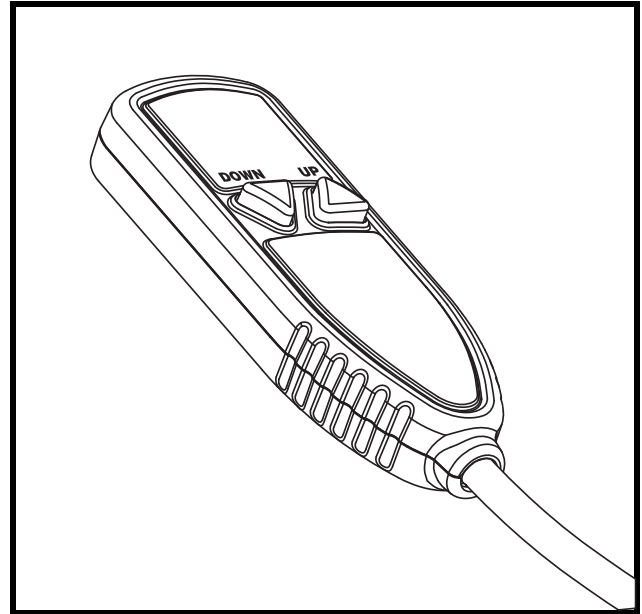

Figure 7. Hand Control
1. Press and hold the “DOWN” button. See figure 7. The lift will move out of the vehicle to its farthest forward stop, then lower to the ground. Once the platform has reached the ground, release the “DOWN” button.
6. Press and hold the “UP” button. See figure 7. The lift will move up to its highest lift point, then slide into the SUV or van. Once the mobility device is stowed completely within the vehicle, release the button.